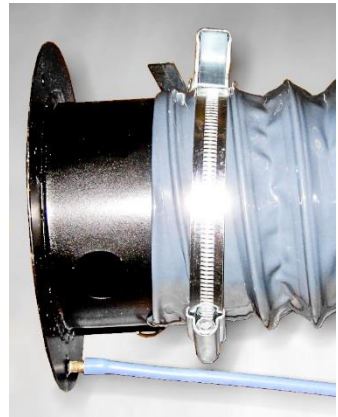

Figure 5. Connecting Pressure Tubing to Tap on Primary Duct Adapter. Bung not shown.
8. If the static pressure tap on the black Primary Duct Adapter is open to the duct, connect the 16 ft (5 m) long blue silicone tube to it as shown in Figure 5.
3. Connect the (+) port on the Model 5815 to measure the duct static pressure (see Figure 5).